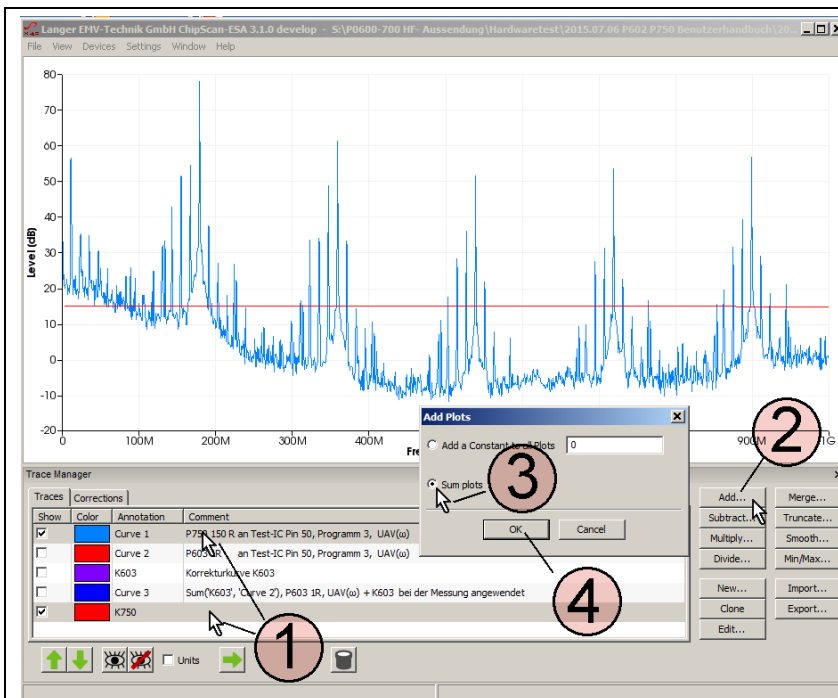

Figure 32: Correction after the measurement; performing the addition $U_{IC} = U_{AV} + K750$
Mark the Curve 1 (U_{AV}) curve and the K750 curve in the Traces list **Figure 32** in the Trace Manager with the mouse cursor ①. Open the mathematical operation "Add..." (addition) and activate "Sum up all Plots" (**Figure 32** mouse cursor ③). Click OK ④ to perform the addition $U_{AV} + K750$.